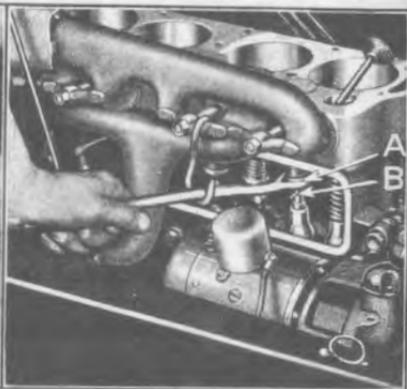

Fig. 221
- 369 Remove valves by inserting a valve lifter under valve spring seat (See "A" Fig. 221) and compressing valve spring until valve spring seat pin "B" can be withdrawn from valve stem. Valve can then be lifted from cylinder block. Examine valves, if a valve is warped, pitted or badly worn on the stem, a new valve should be installed.